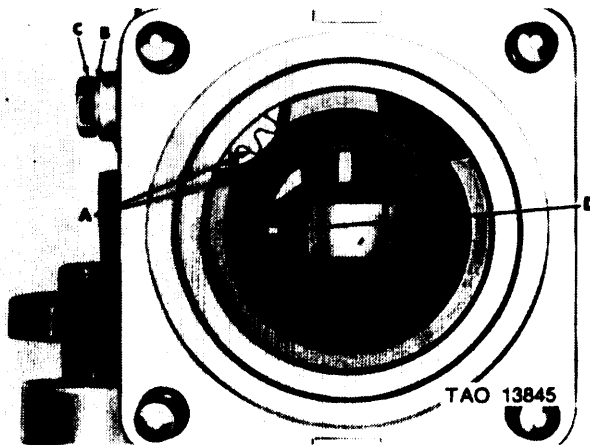
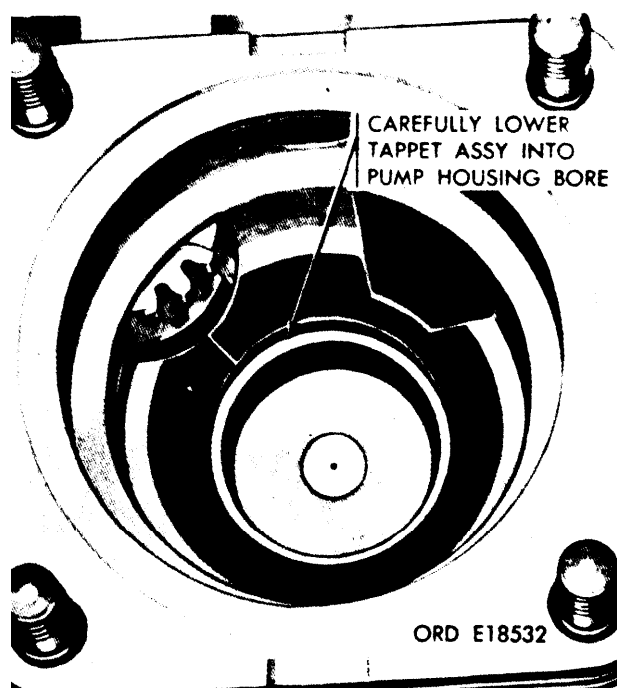

Figure 3-116. Installing quill shaft assembly in housing.
Figure 3-119. Installing tappet assembly.
d. Refer to figure 3-116. Install quill shaft assembly so open tooth aligns with housing mark (A). Install copper gasket (B) and machine screw (C). Torque tighten machine screw to 80-90 inch-pounds and secure with locking wire.
(1) Refer to figure 3-119. Install tappet assembly after aligning tappet slot with tappet guide pin (D, fig. 3-116).